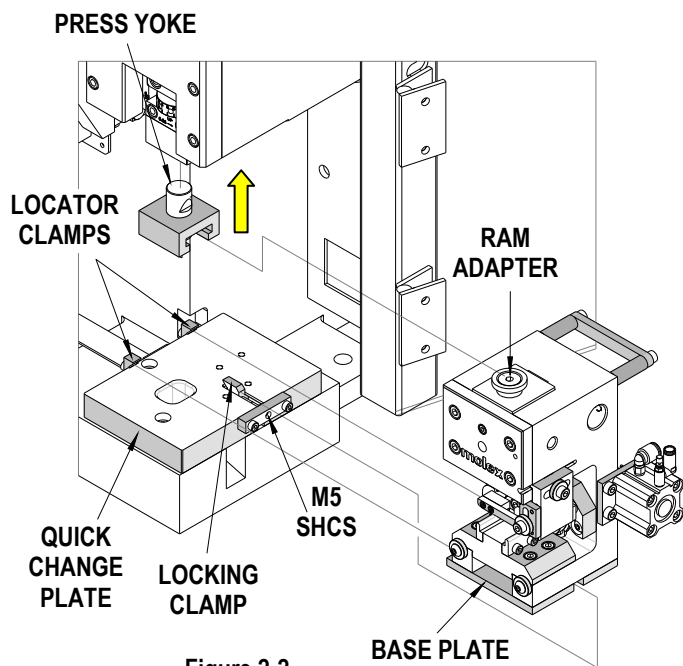

Figure 2-2
7. Slide the crimp module onto the quick-change mounting plate until the two notches on the left side engage against the stops, and at the same time, guide the ram adapter into the press yoke. See Figure 2-2.